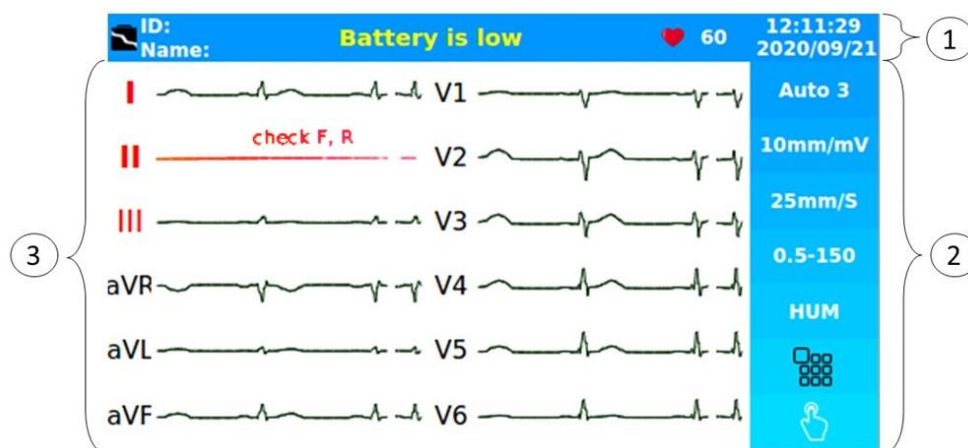

Figure 1-2 Display screen
Header area (figure 1-2-①),
Touch keys area (figure 1-2-②),
Waveform area and error messages area (figure 1-2-③).
DENA 650 constantly checks the connection of the electrodes and, if it detects that the electrodes are not properly connected, displays a red message in the waveform area (such as lead II in Figure 1-2-③).